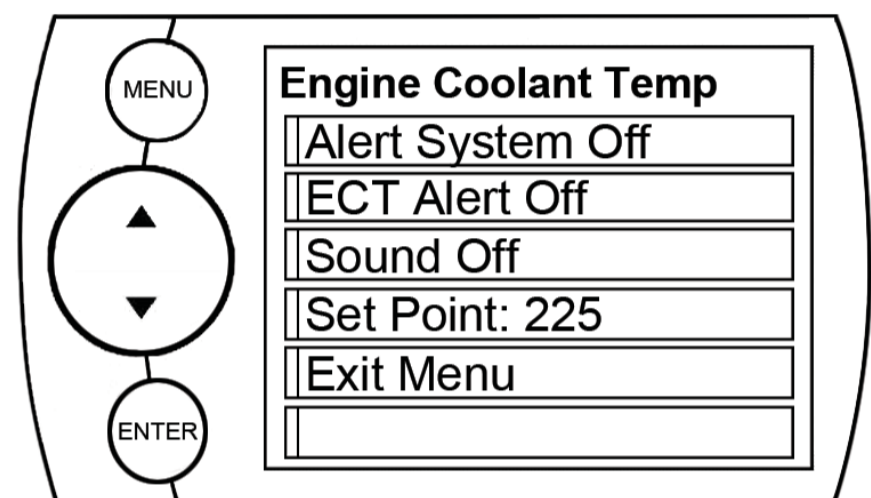

Figure 18
The Alert Options (Settings) screen (Figure 18) allows you to turn the alerts on/off both collectively and individually, and also lets you set the alert values for each of the available parameters.
1. Select a PID in the Alert Options menu and Figure 18 will appear:
**NOTE:** In Figure 18 the Engine Coolant Temperature PID is being modified.